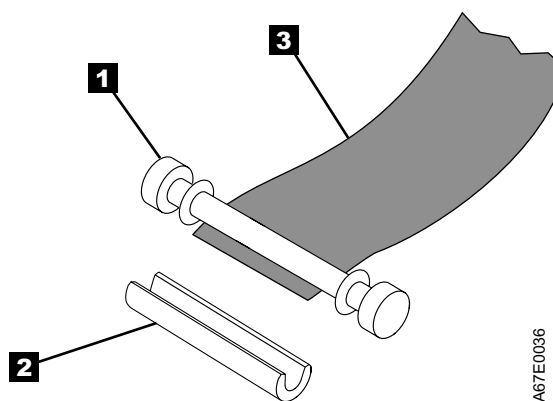

Figure 15. Removing the C-Clip from the Leader Pin. Use your fingers to push the C-clip from the leader pin.
5. On the leader pin (**1** in Figure 15), locate the open side of the C-clip (**2**). The C-clip is a small black part that secures the tape (**3**) to the pin.